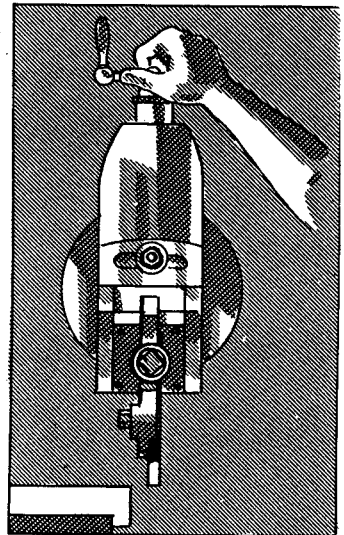

FIG. 432
2. Move the table horizontally until the side of the tool is about even with the edge of the work (Fig. 432). Refer to page 78, How to Adjust the Table Horizontally.
4. Raise the tool slide until the tool is above the top of the work (Fig. 432).